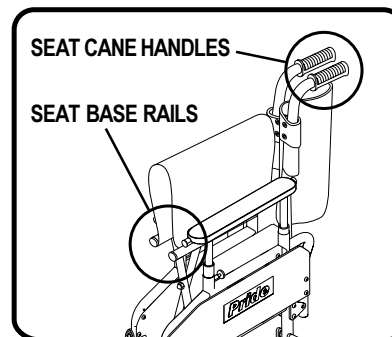

Figure 5. Lifting Points
2. With one hand, grab and squeeze together both seat cane handles. See figure 5.